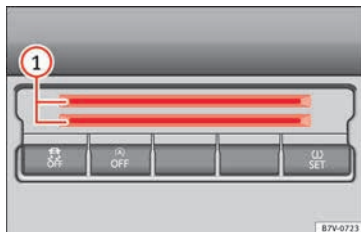

Fig. 181 Centre console, lower section: card compartment
To the bottom of the centre console there is a compartment » **Fig. 181** ① for coins, cards, car park tickets and similar items.